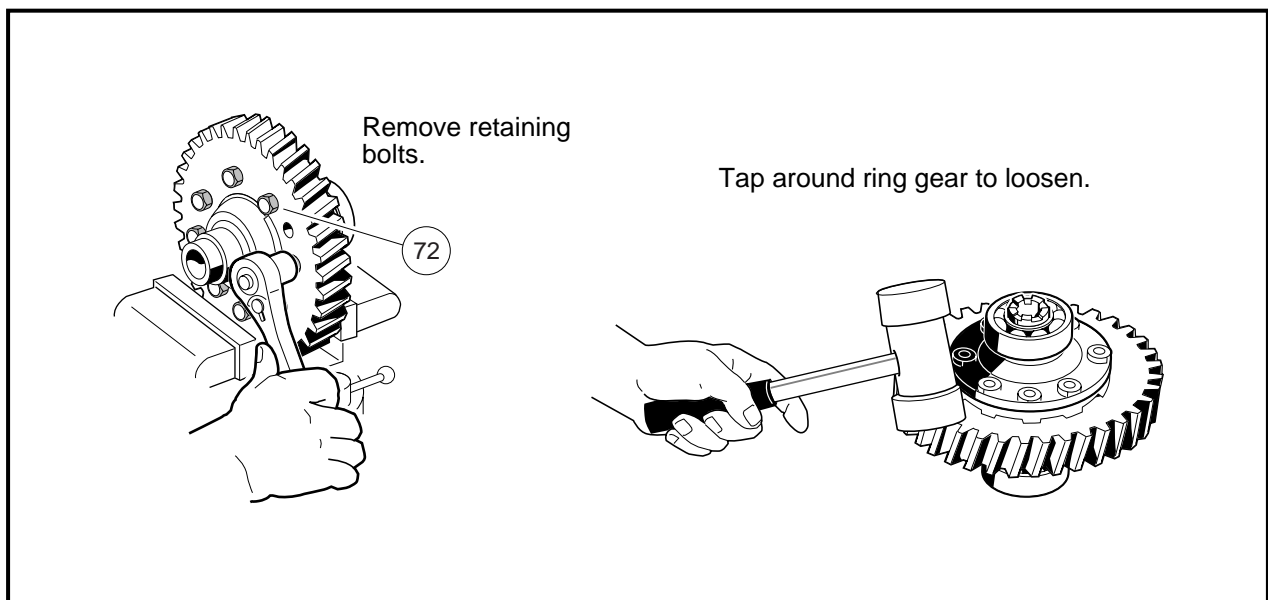

Figure 16-51 Remove Ring Gear
1. Remove eight ring gear retaining bolts (72) (**Figure 16-51, Page 16-21**), and remove the ring gear from the assembly. It may be necessary to tap the ring gear off with a plastic or rubber mallet (**Figure 16-51, Page 16-21**). See following NOTE.